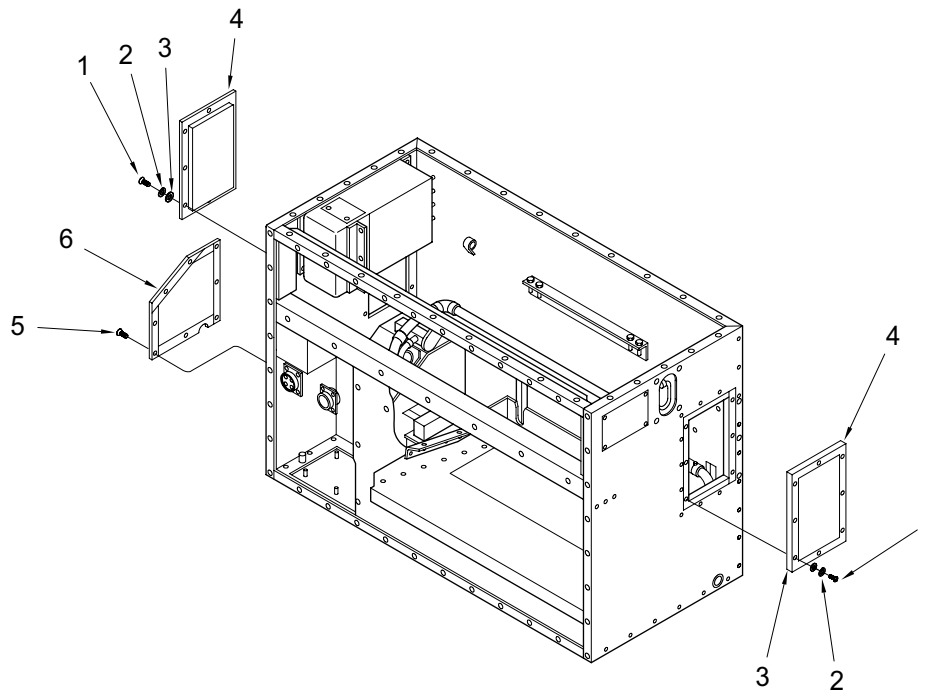

Figure 1. EVAPORATOR ACCESS AND FRESH AIR COVERS.
1. Remove screws (1), lockwashers (2), and flat washers (3) from either fresh air cover (4). See Figure 1.
3. Remove screws (5) from access cover (6). See Figure 1.
4. Carefully remove the access cover (6).